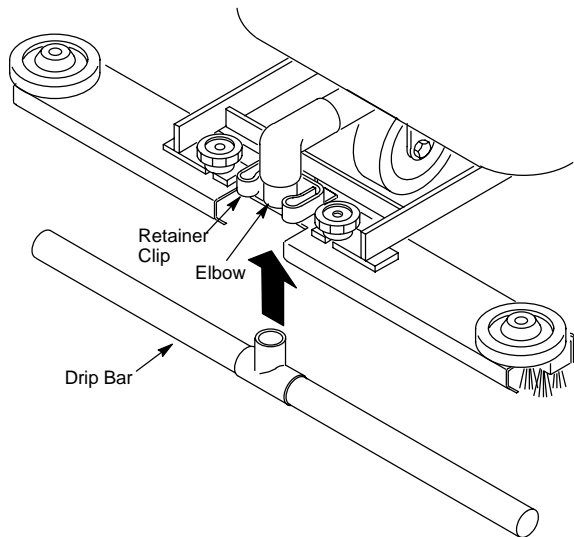

FIG. 6.
- Position drip bar into dispenser assembly and snap bar onto retainer clip. Then connect elbow on clear hose to drip bar (*Figure 6.*).